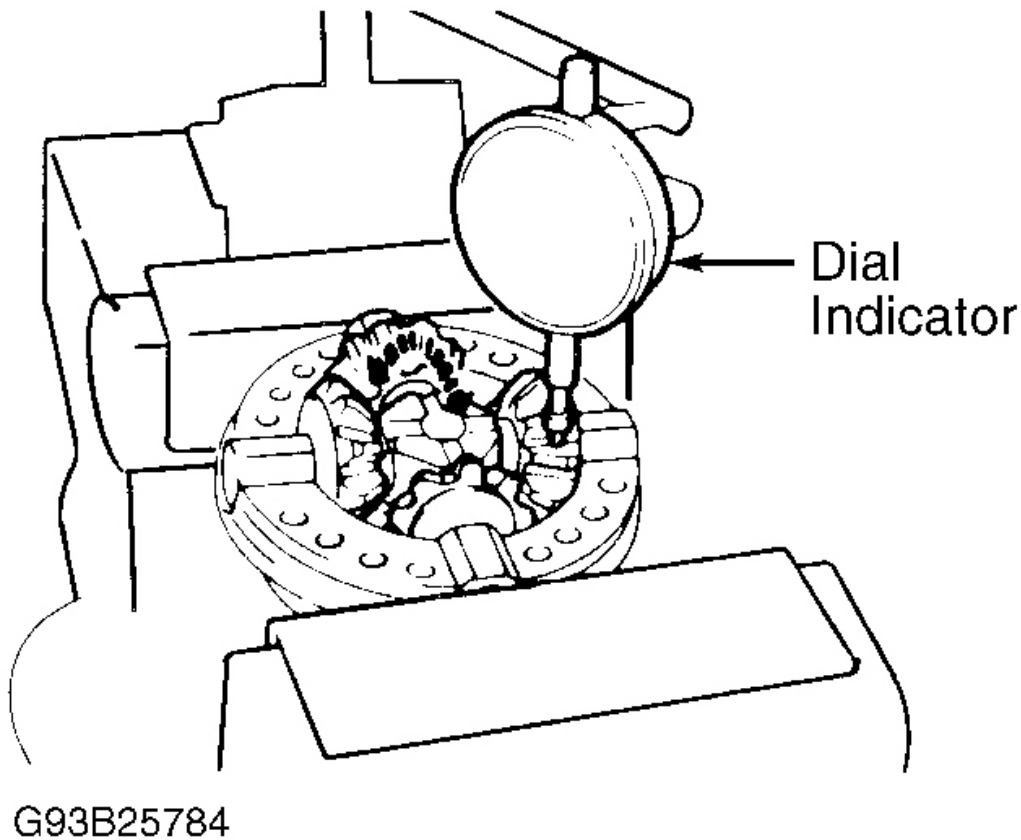

Fig. 51: Measuring Front Differential Side Gear Backlash
4. Install following parts in front differential left case: side gear thrust washer, side gear, 4 differential pinion gears, 4 pinion gear thrust washers and differential spider into front differential left case. On both models, use a dial indicator to measure backlash of one pinion gear while holding side gear toward case. See **Fig. 51**. Backlash should be .0020-.0079" (.050-.200 mm). If backlash exceeds specification, install thrust washers of different thickness. **DO NOT** overtighten vise. Under DIFFERENTIAL ASSEMBLY (A-540E) see **SIDE GEAR THRUST WASHER SPECIFICATIONS** table.
5. Perform same procedure described in step 4 for front differential right case. See **Fig. 51**.